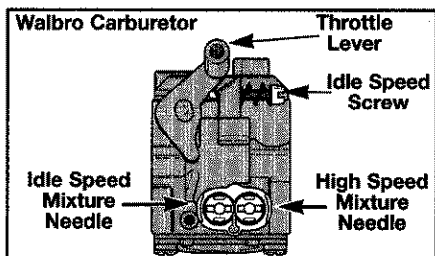

Fig. 25
- a. For Walbro carburetors: Back the idle speed screw (Fig. 25) **out, counterclockwise**, until it does not contact the carburetor throttle lever.
5. Release the throttle trigger and let the engine idle. If the engine stops, turn the idle speed screw (Figs. 25 and 26) **in, clockwise**, 1/8 turn at a time (as required) until the engine idles.
- a. Turn the idle speed mixture needle (Figs. 25 and 26) **in, clockwise**, until you hear the fastest idle; then turn the needle **out, counterclockwise**, 1/8 turn.